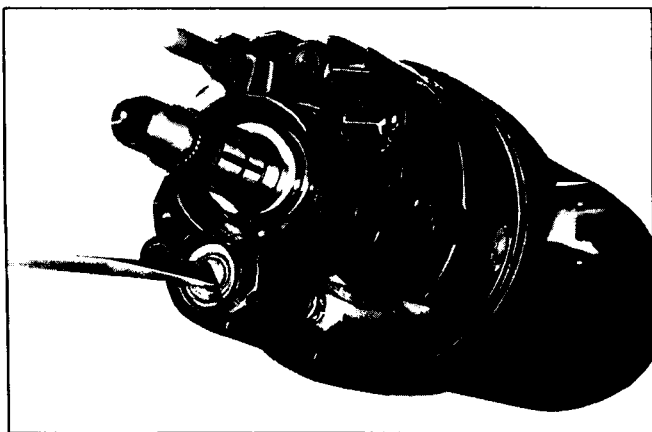

Fig. 9-54 Removing or Installing Tilt Spring Retainer
12. Install tilt release lever and place column in full "UP" position. Remove tilt spring retainer using screwdriver blade that just fits into slot opening. Insert screwdriver in slit, press in approximately $3/16"$, turn approximately $1/8$ turn counterclockwise until ears align with grooves in housing and remove spring and guide (Fig. 9-54).
14. Place housing in full "UP" position and install guide, tilt spring and tilt spring retainer using screwdriver in retainer slot. Turn retainer clockwise to engage (Fig. 9-54).